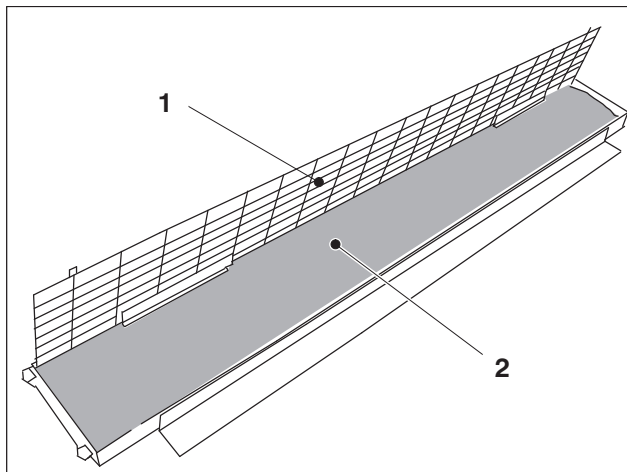

Fig. 56 Changing the filtering mat
3. Open the protection grid (Fig. 56/1) of the filter case.
4. Remove the soiled filtering mat (Fig. 56/2) from the filter case.
6. Close the protection grid (Fig. 56/1) of the filter case.